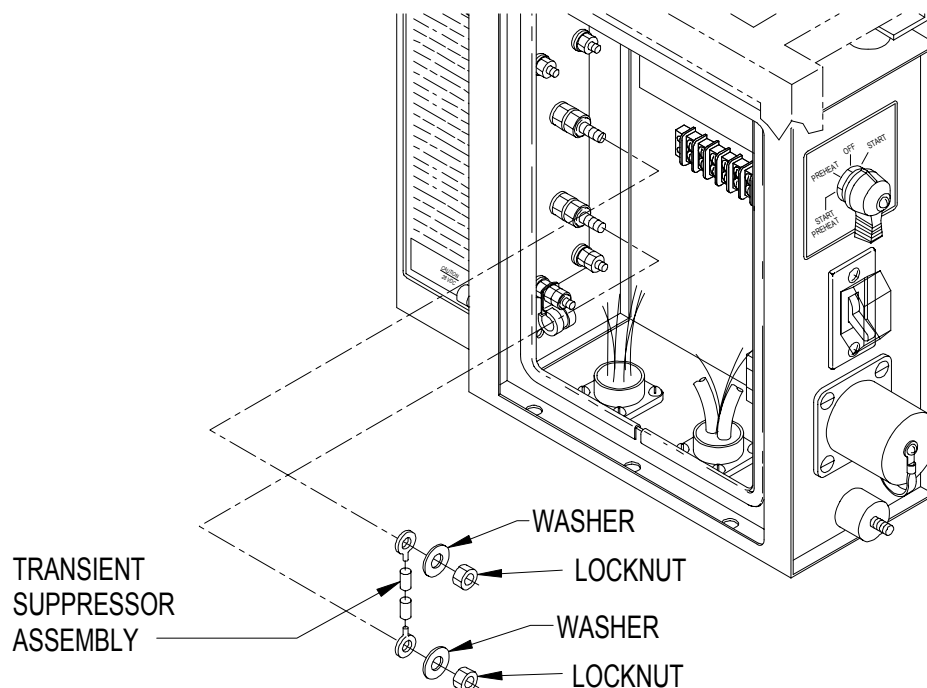

Figure 4-30. Transient Suppressor Assembly (MEP-501A)
(1) Shut down generator set.
(2) Release instrument panel by turning fastener, open instrument panel slowly.
(3) Remove locknuts and washers (Figure 4-30) securing transient suppressor assembly to load terminals (+) and (-). Then remove transient suppressor assembly.
- (1) Install transient suppressor assembly (Figure 4-30) on load terminals (+) and (-) with locknuts and washers.
- (2) Close and secure instrument panel.
4.32. FUSEHOLDER (S).